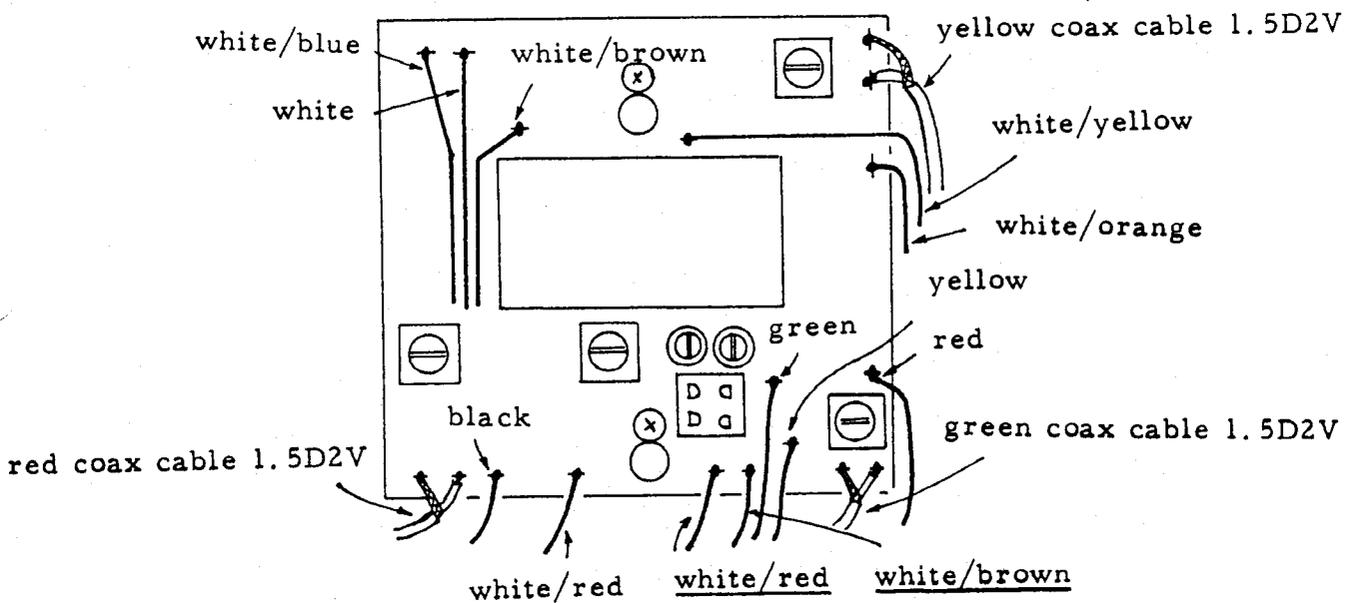

Fig. 6-7
3. Solder all wires as illustrated in Fig.6-7. There are two kinds of same colored wire, i.e. white/red and white/brown. These wires are from the VFO select switch as underlined in the illustration.